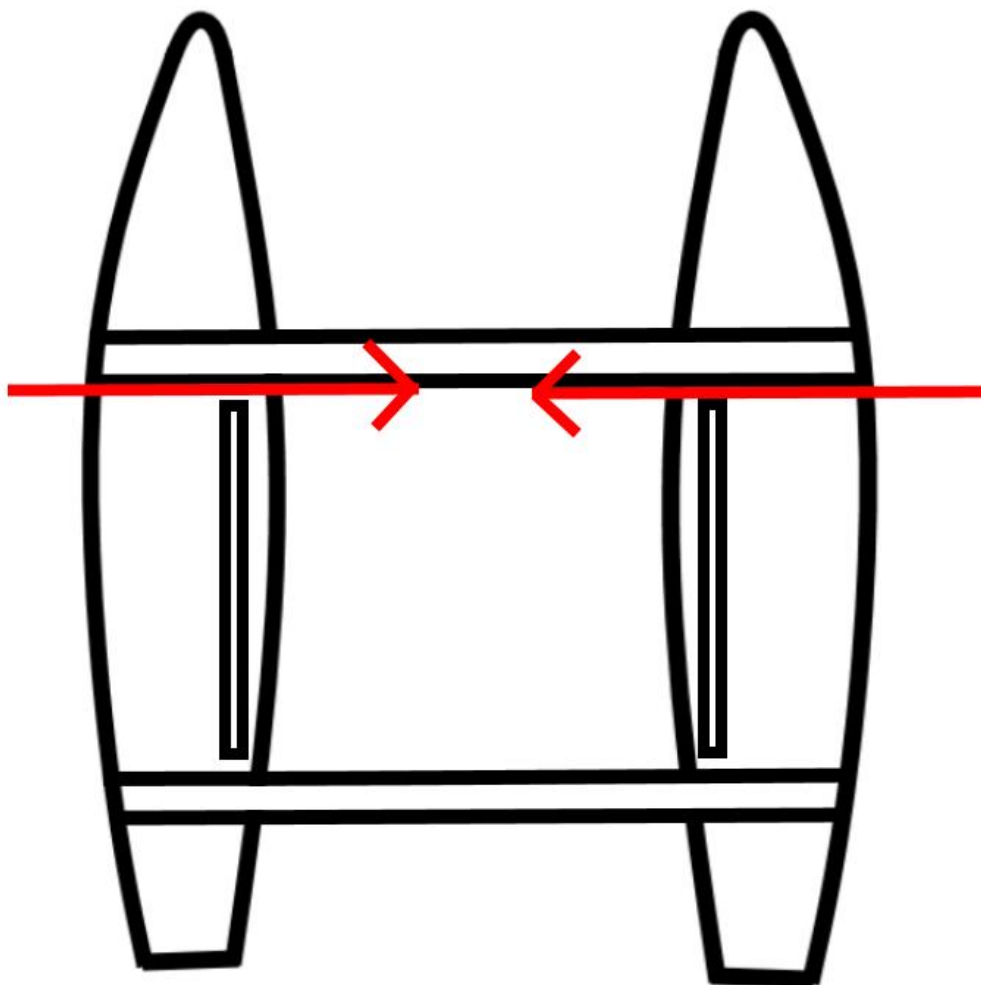

FIGURE 1: Slide forward portion of trampoline halves into boltrope track in rear of front beam – from outside to center.
Step 2: Feed forward portions of both trampoline halves into boltrope tracks (in the rear of the forward beam) – from outboard to inboard. See **Figure 1**.